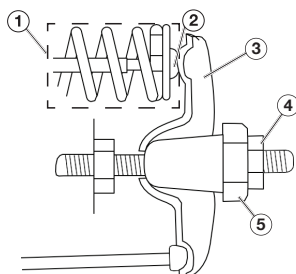

Figure 24
5. Insert a feeler gauge between the rocker arm and the valve and check for clearance (see Figure 24). See Table 3 for valve lash specifications.